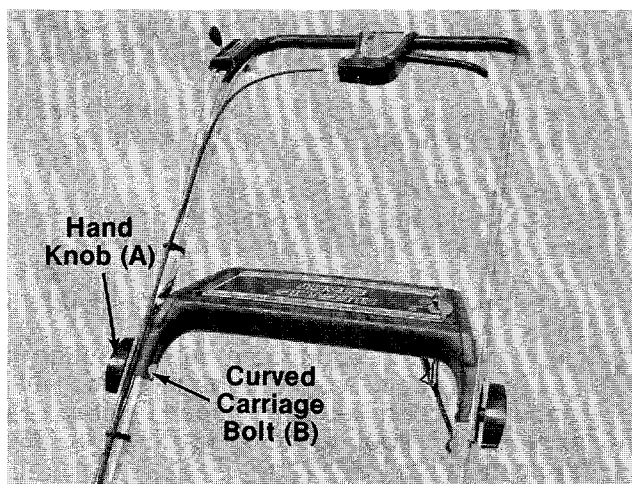

FIGURE 3.
4. There are two height positions for the handle. Place upper handle (with the clutch control attached) in position over lower handle. Select hole for either high or low position. Refer to figure 14. Hold the handle panel in place (on model 296 only). Secure with two curved carriage bolts (B) and hand knobs (A) as shown in figure 3. The knobs must be to the outside of the handle.